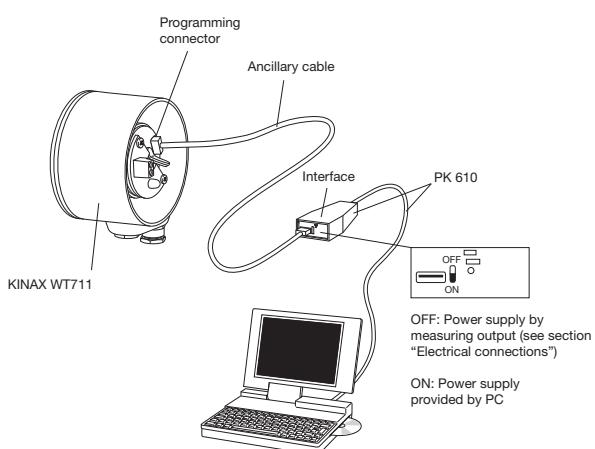
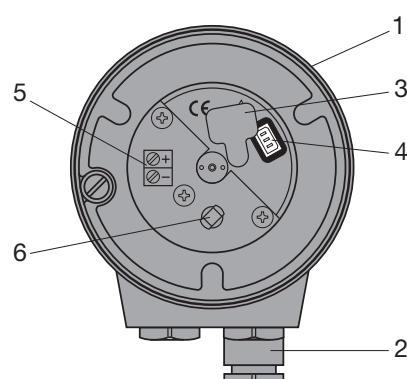

Fig. 6
Fig. 8. Housing (1) with the cover removed showing the screw terminals (5) and cable glands (2).
1. Remove the plastic cover from the housing. Remove the rubber cover (3) to gain access the programming connector (4) (see section “8.1 Connecting transmitter” and Fig. 8). Connect the KINAX WT 711 to the programming device according to Fig. 6. Start the 2W2 configuration software. If necessary, configure the device with the required measuring range data.
1. Put the transmitter into operation and connect the programming device according to Fig. 6 (AUX switch on the PK 610 on the OFF position).